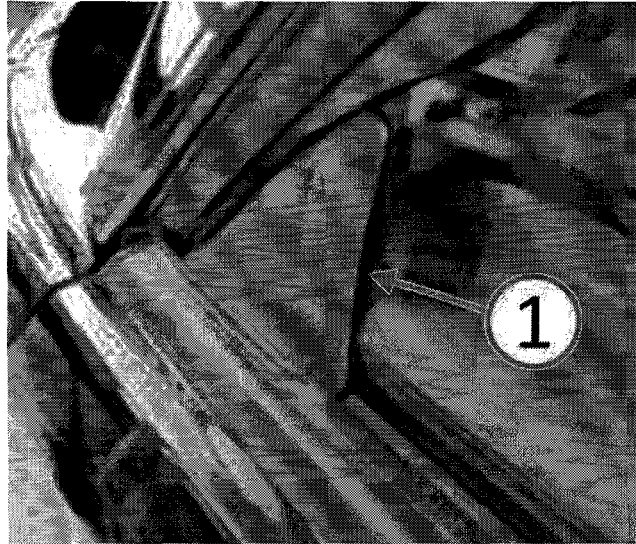

Fig. 1 Window Flag Gap Inspection
2. Inspect both doors for a gap between the outer door mounted window seal flag and the door window glass (Fig. 1).